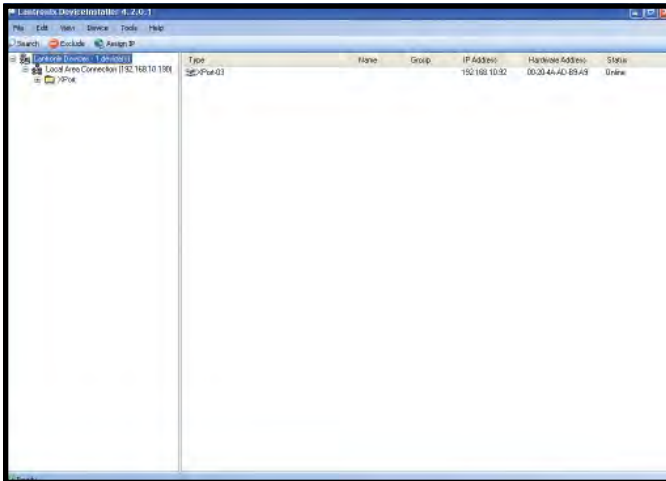

Figure 65. DeviceInstaller search results
- III. After a few moments, “XPort-03” should appear on the screen along with its assigned IP address and designated hardware address (see Figure 65). If it does not appear, check all connections from the Ethernet Board to the Smart Clock and verify that both are powered.